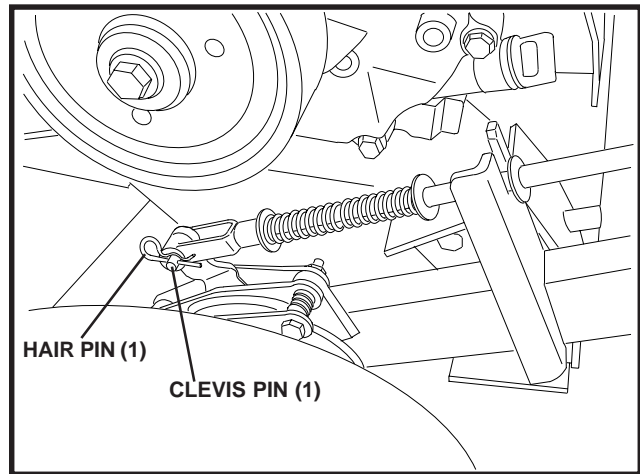

FIGURE 4
8. Attach the yoke to the brake's top mounting hole using the clevis pin and cotter pin. Make sure the rod is positioned in the bracket as shown in Figure 4.